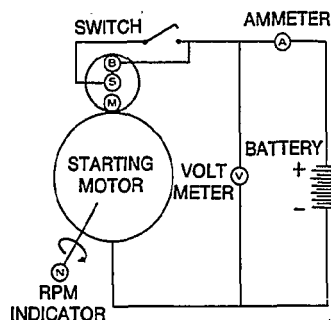

FIGURE 49. WIRING STARTER FOR NO-LOAD TESTS
1. For no-load test, the starting motor is wired as shown in Figure 49 and run. The value of the meter reading at this condition should be as follows: